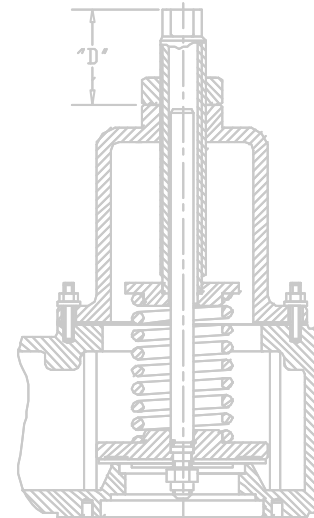

Fig. 9- Adjustment Screw Location
2. Carefully measure and record the distance from the top of the adjustment screw (#19) to the top of the spring chamber (#17). (Dimension "D" - See Fig.9).